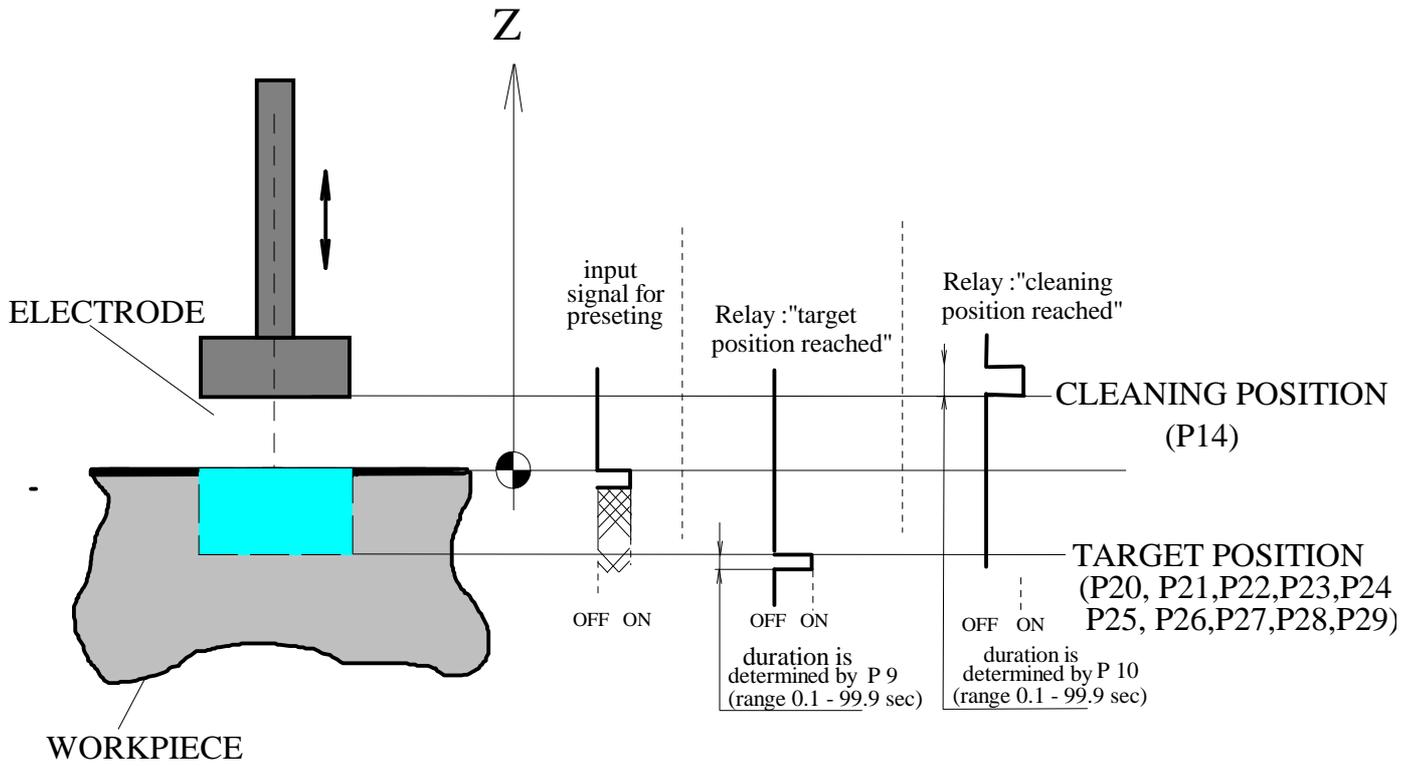

FIGURE 2
The functioning of relay's outputs is shown on figure 2. When a electrode reach the target erosion position relay "position reached" switch on for time which is set in parameter P 9.
The functioning of relay's outputs is shown on figure 2. When a electrode reach the position relay "target position reached" switch on. The relay stays switched until position is not changed. If position is across, relay switched for time which is set in parameter P 9.
- the relay "target position reached" is switched ON, for the time wich is set in parameter P9 (figure 2 and figure 3);
- the relay "Cleaning position reached" is switched ON, for the time wich is set in parameter P10(figure 2 and figure 3);